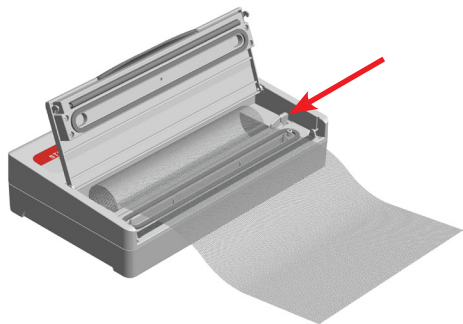

Figure 4: Cut the roll with incorporated cutter.
- b.) Cut off the desired length with the included cutter (*Figure 4*).